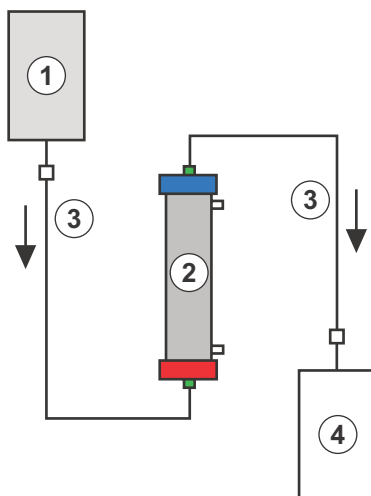

Fig. 9-11 Set-up for ultrafilter rinsing
Materials: See key to Fig. 9-11
2. Attach the second connection line and the collection bag as shown in Fig. 9-11 with the blue, plasma-side filter opening.